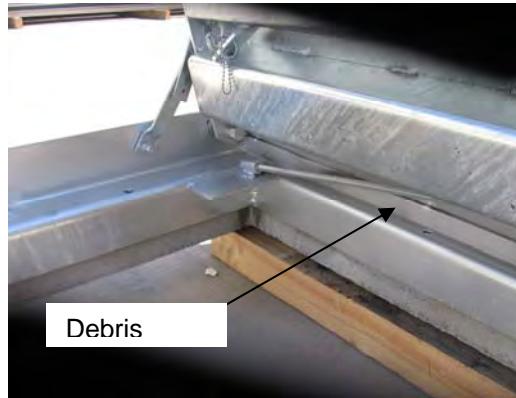

Figure 2.
7. A maximum 1/8" horizontal and vertical gap around lids, with a debris shield welded on the back side of lids (see Figure 2).